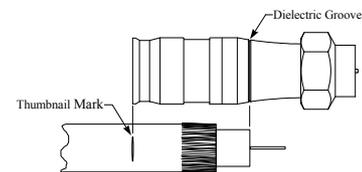

Figure 3
7. Align the end of the dielectric with the groove on the connector body. Make a mark in the cable jacket even with the back of the connector (Fig. 3).